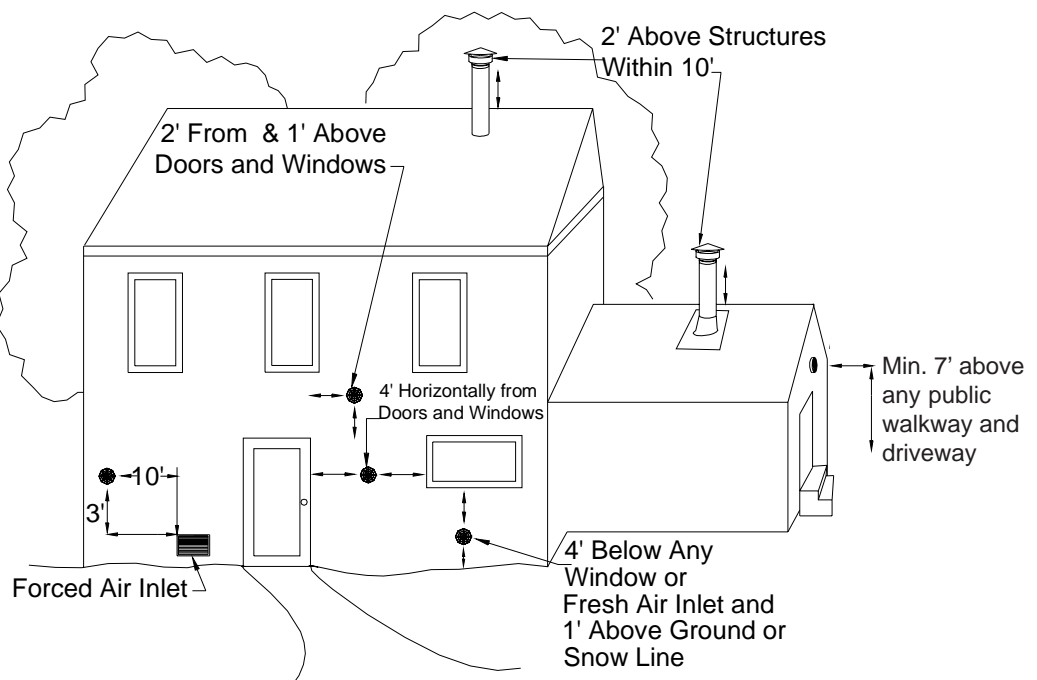

Fig. 4 - SGV/DGV Termination Locations
- 3 The Termination Location (Figure 4):